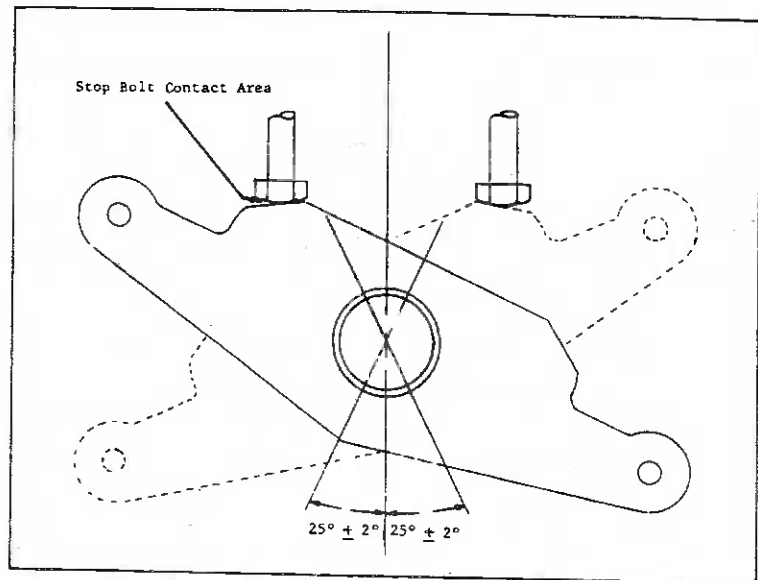

Figure 3. Rudder Bellcrank Stop Bolt Adjustment.
5. Install the rudder bellcrank, REMOVE THE BLOCKS FROM BEHIND THE RUDDER PEDALS and adjust the rudder stop bolts to provide  $25^\circ \pm 2^\circ$  rudder travel, both right and left as shown on figure 3.